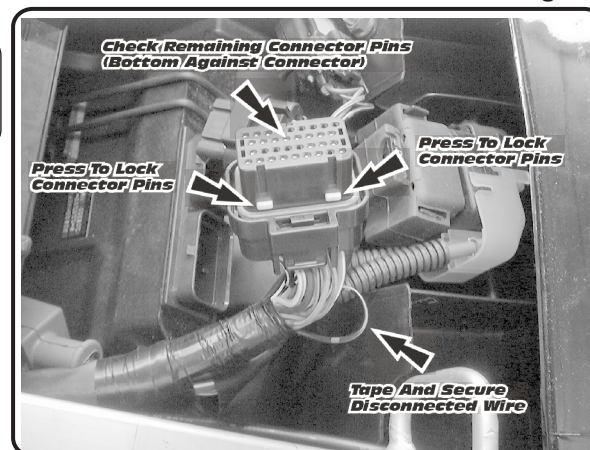

Fig. 6
- 14 Press the protruding two small rectangular white plastic tabs on ECU connector to lock connector pins. (See Fig. 6) The white plastic locking plate should click into place with minimal force when all remaining pins are bottomed against connector.